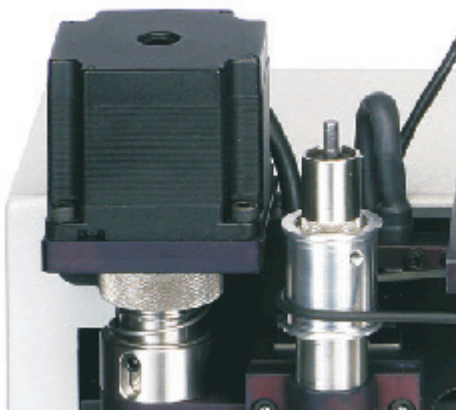

Figure 11
- 10 Screw the "Light Touch" without the Diamond Cutter fitted, anti-clockwise into the top of the spindle shaft. DO NOT OVER-TIGHTEN - hand tight only, see Figure 11.